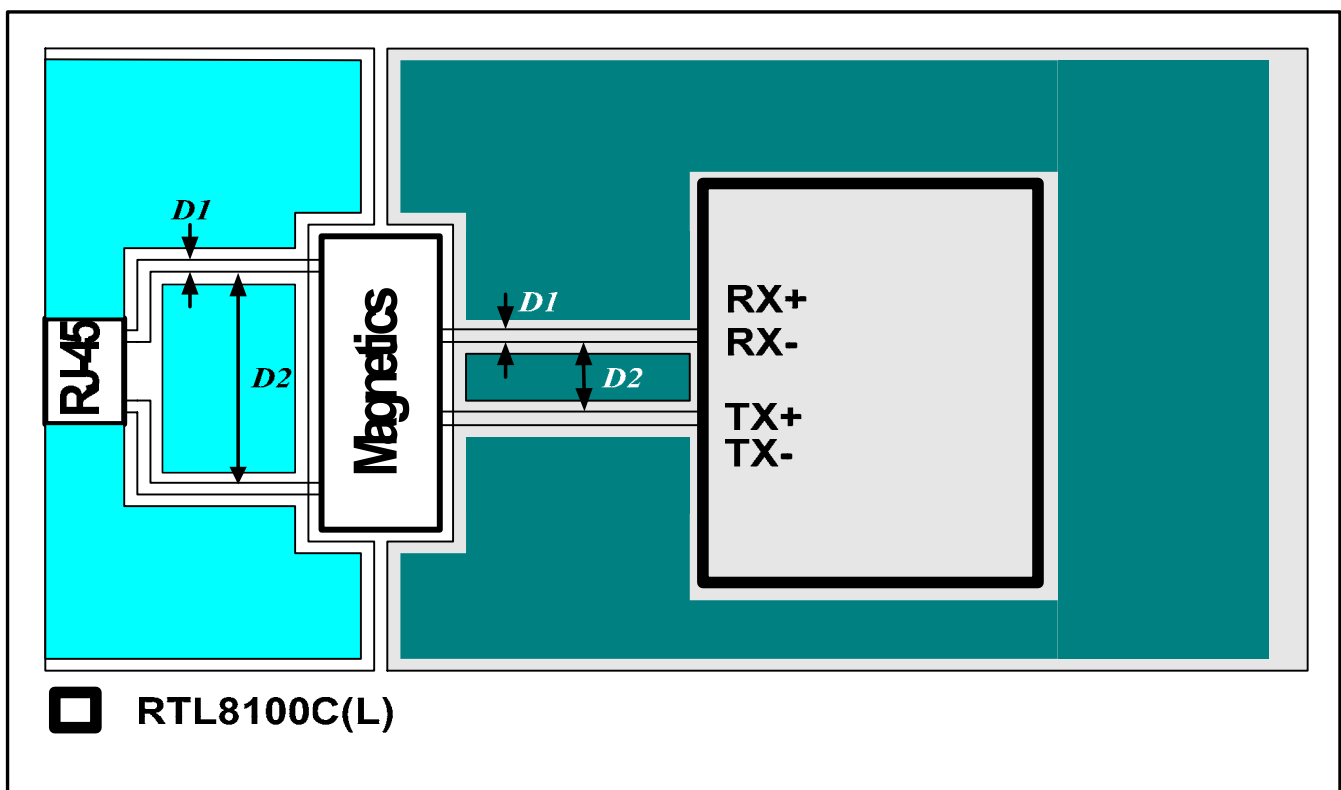

Figure 3. Signal and Trace Routing
- Traces routed from the RTL8100C(L) to the 10/100 magnetics, and to the RJ-45 connector, should be as short as possible. It is also very important to keep both differential pair signal traces (TX+/- & RX+/-) equal in length. The traces should be placed close to each other ($D1$ in Figure 3) as they provide a strong canceling effect on noise. However, it is very important to keep TX and RX signal pair traces apart ($D2$ in Figure 3).